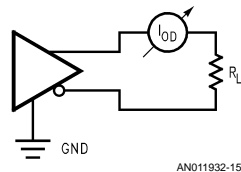

FIGURE 14. Differential Output Current
**$I_{OD}$  — Differential Output Current.** The current flowing between the output terminals of a differential line driver with an external differential load applied that, according to the product specification, will establish a known state at the output. See Figure 14.